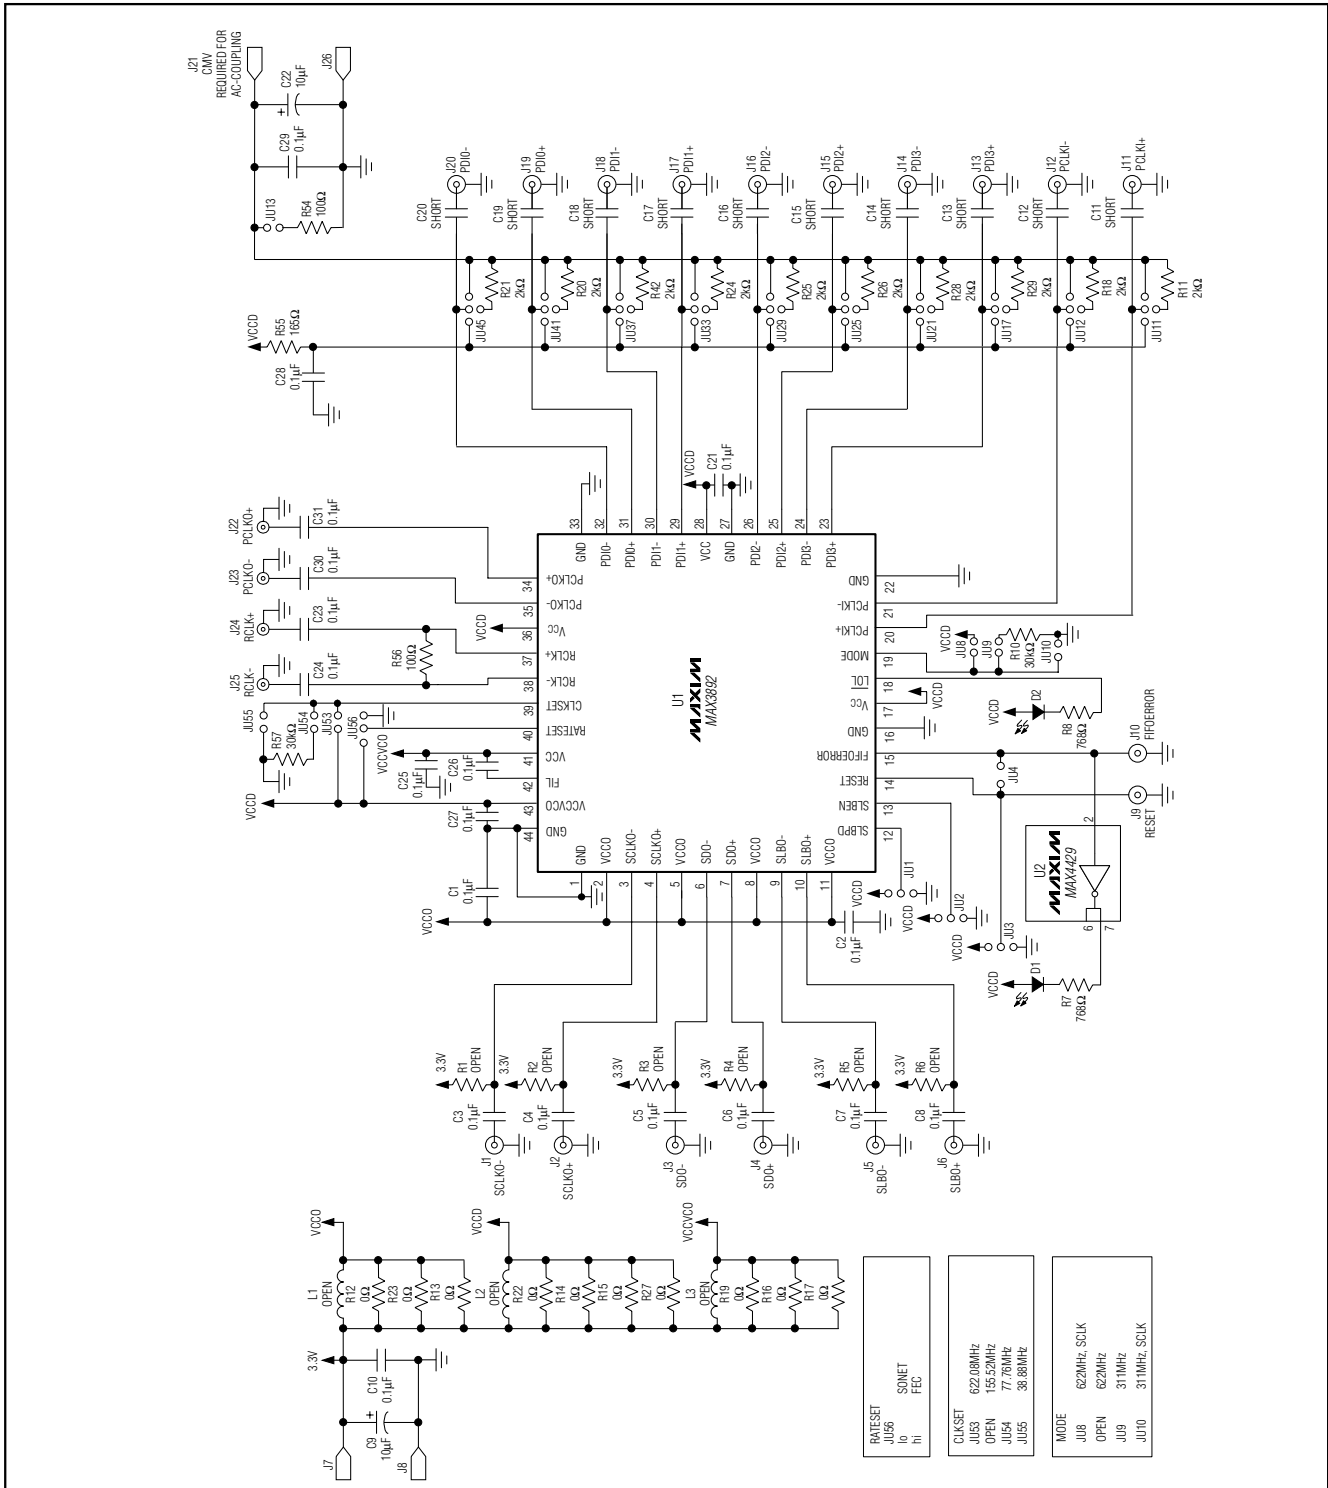

Figure 1. MAX3892 EV Kit Schematic
- 2) Install JU53 for a 622MHz reference clock at the RCLK pins. See Figure 1 for other reference clock frequencies. Install no jumper or install only one of jumpers JU53, JU54, or JU55, based on the reference clock frequency.
- 4) Install JU8 to select a 622MHz clock input to PCLKI for latching in the parallel data. This also enables the SCLKO for retiming the 2.5Gbps serial data. See Figure 1 for other states of the MODE pin. Install none or one of jumpers JU8, JU9, or JU10.